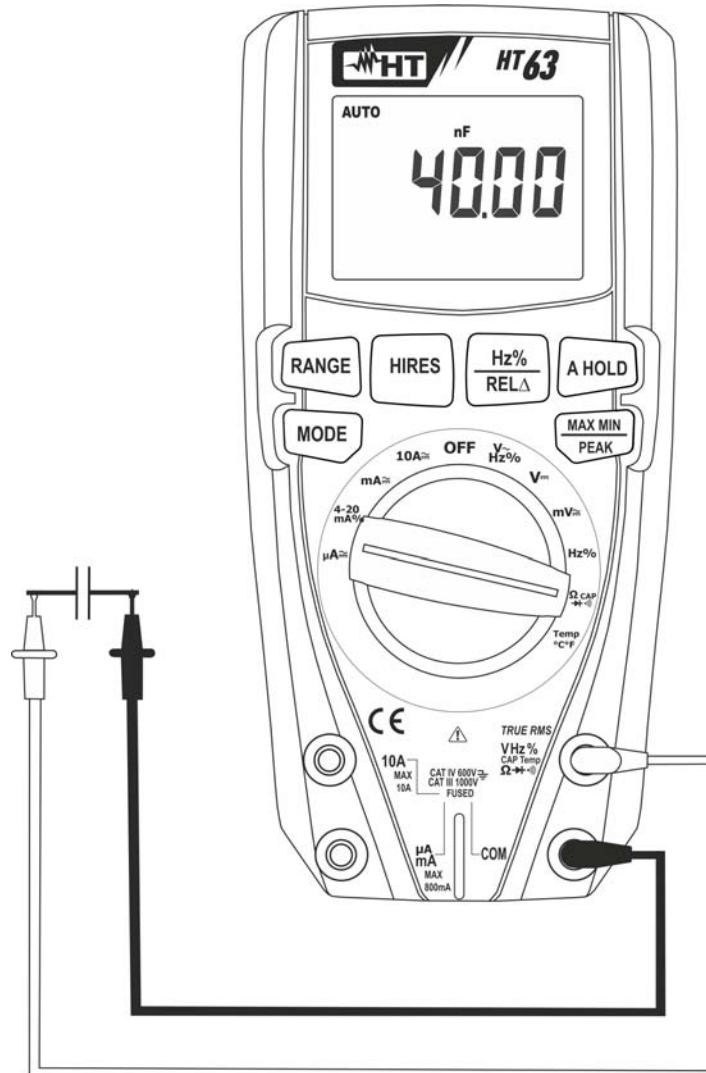

Fig. 7: Use of the instrument for Capacitance measurement
5. Position the leads at the ends of the capacitor to be tested, respecting, if necessary, the positive (red cable) and negative (black cable) polarity (see Fig. 7). The display shows the value of capacitance. The bargraph is not active in this function.